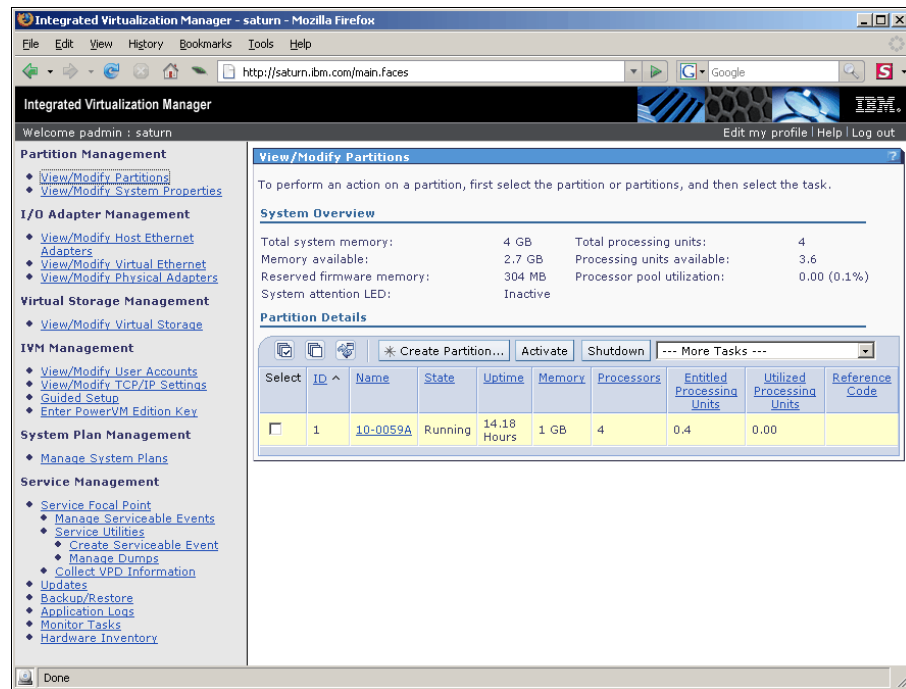

Figure 6-12 View/Modify Partitions page after logon
2. Depending on the setup of your IVM, you will be at the Guided Setup or on the View/Modify Partitions page. Figure 6-12 shows the usual page that you see after logon when the IVM is fully configured.